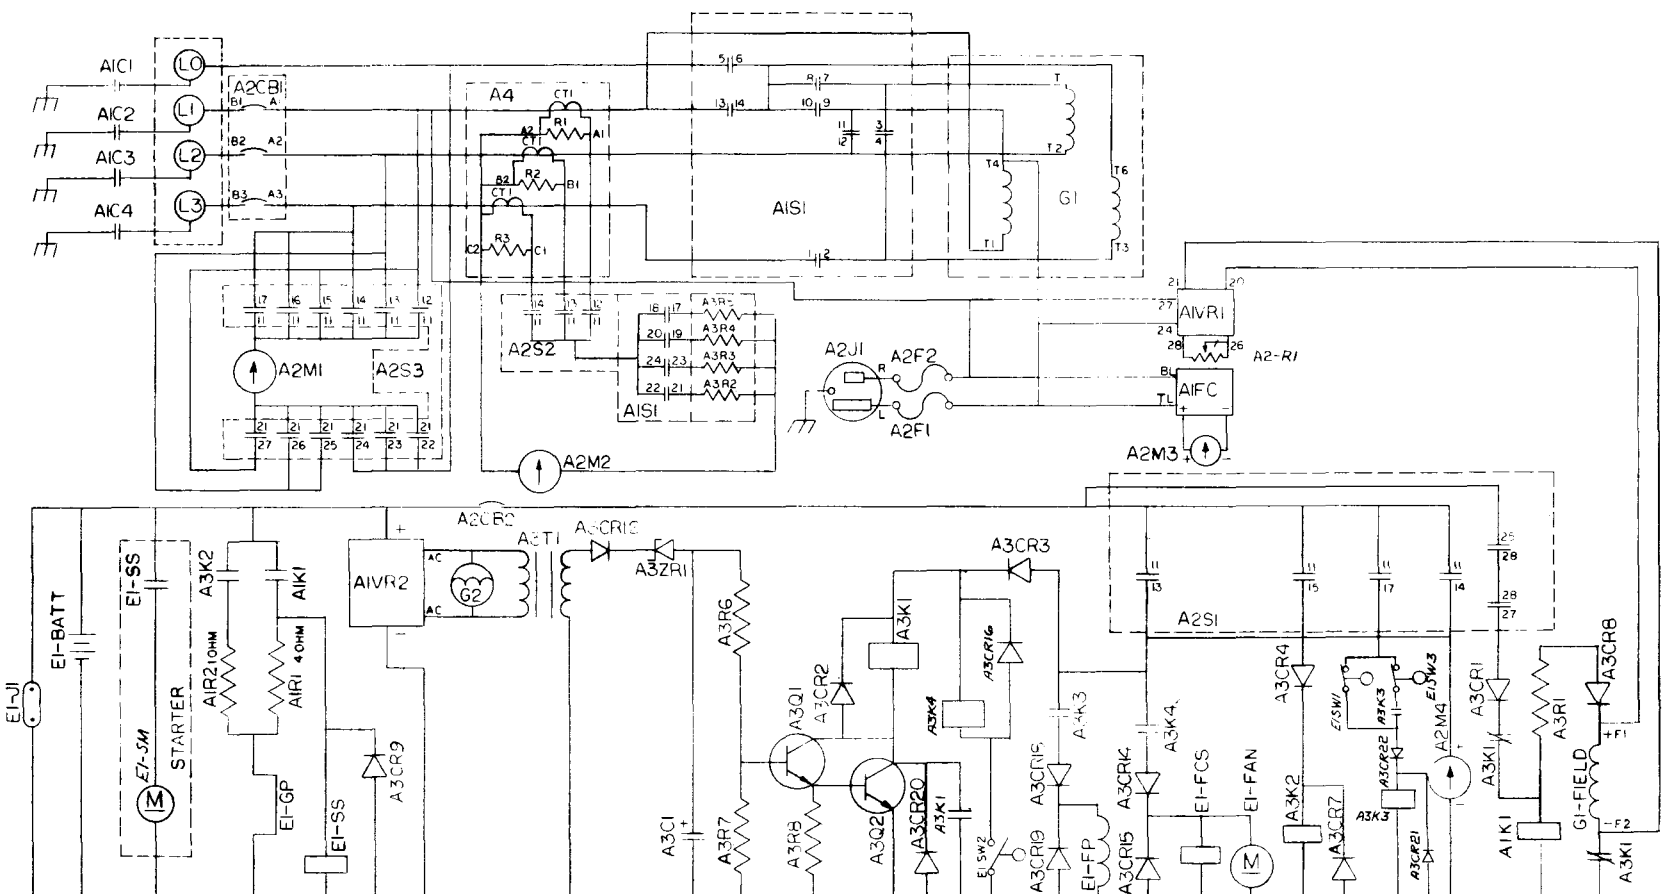

Figure 4-64. Schematic Diagram (Models MEP-016B and MEP-021B) (Sheet 1 of 2).
3. For electrical schematic (Models MEP-016B and MEP-021B) see Figure 4-64.
10. Mark item 16 "30554-84-13154" in accordance with MIL-STD-130. Locate approximately as shown.